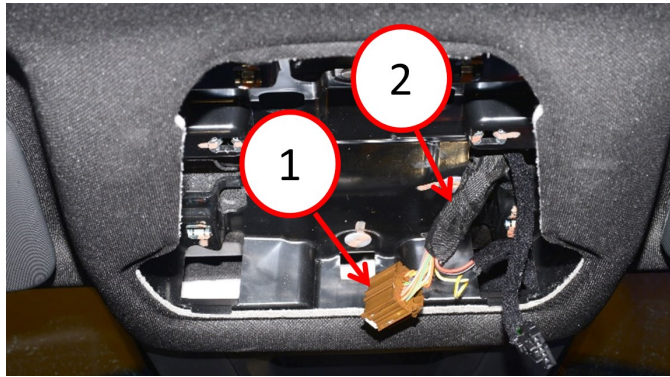

Fig. 1
8. Remove approximately 0.7 - 1.18 cm (2 - 3 in.) of the wiring harness tape, from the dome lamp wiring harness Fig. 1.